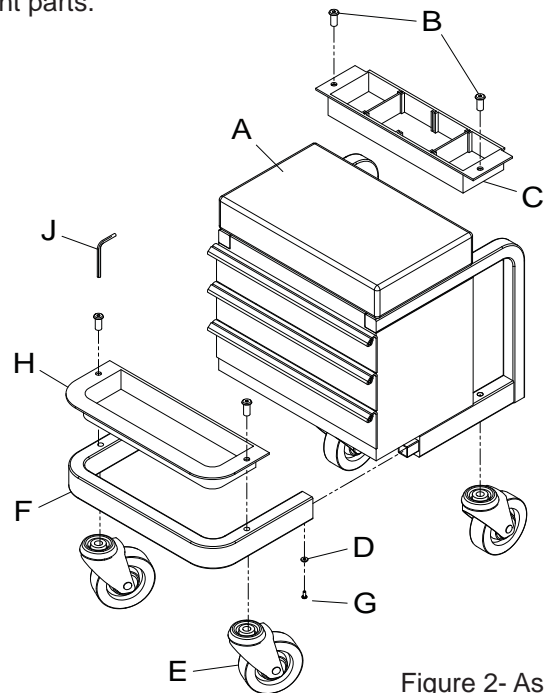

Figure 2- Assembly
Before beginning assembly of product, make sure all parts are present. Compare parts with package contents list and Figure 2 illustration. If any part is missing or damaged, do not attempt to assemble, install or operate the product. Contact customer service 888-332-6419 for replacement parts.
ASSEMBLY INSTRUCTIONS (ref. Figure 2)
1. Join frame sections by inserting front frame section (F) into channel sections of tool box subassembly (A). Line up screw holes and thread screws (G) fitted with washers (D) into corresponding holes in channel sections. Do not tighten screws yet.
2. Assemble a caster (E) and a tool tray (C or H) simultaneously. Position a caster stud into lower frame hole as seen in Figure 2. Place tool tray into position by aligning the lower frame thru-hole with corresponding hole in tool tray. Insert caster fastener into the swivel caster stud.